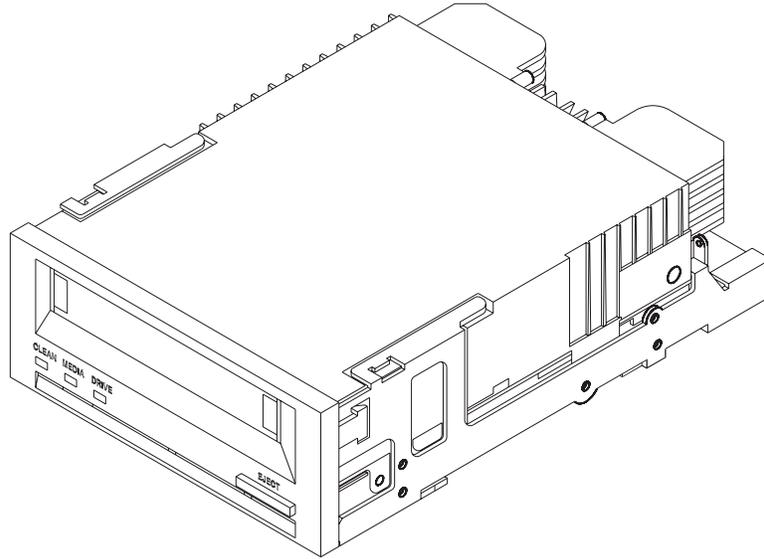

Figure 1. 3.5-Inch Internal Scorpion 40
- A 3.5-inch, half-height DDS-4 drive that mounts internally—model STD1401LW (see Figure 1).